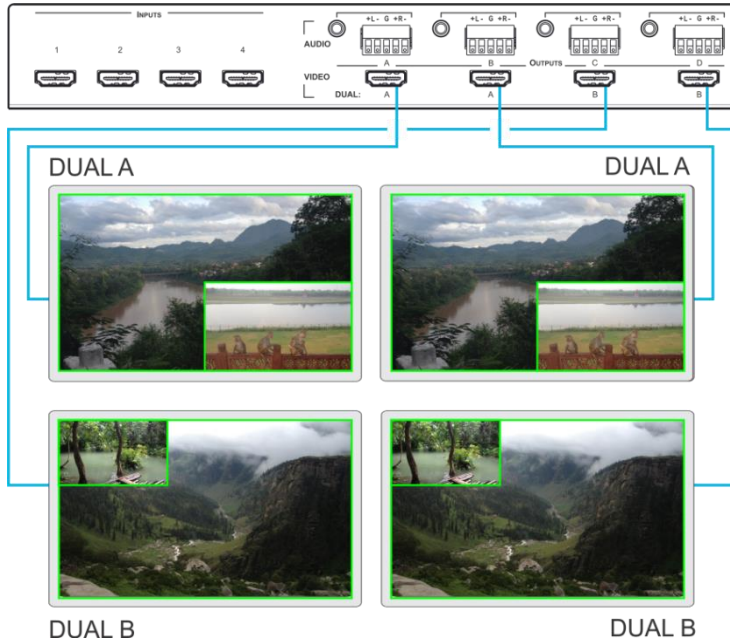

Figure 8: Connecting the VSM-4x4A in Dual Operation Mode
In Dual mode, **VSM-4x4A** is set as a 4x2 switcher with picture-in-picture capabilities that outputs two identical A outputs and two identical B outputs (see Figure 8).
**To connect in the Dual mode as illustrated in Figure 8:**
1. Connect the inputs (1 to 4) to HDMI sources, not shown in Figure 8.